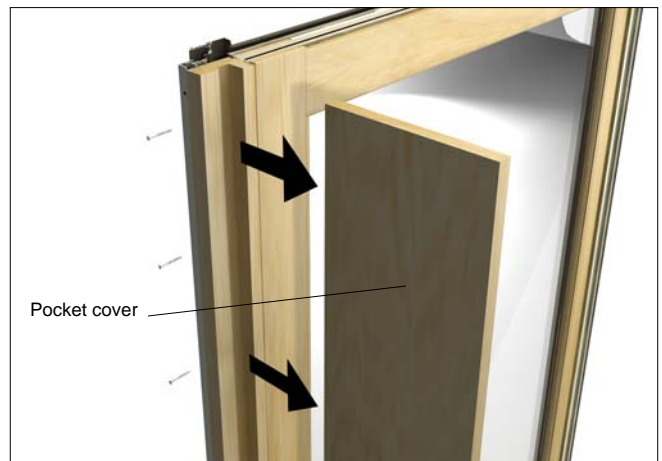

Figure 18
11. Pull pocket panel out of the pocket and remove pocket cover. Take care not to damage the floor when pulling the panel out of the pocket as the panel will roll past the end of the track. See figure 18.